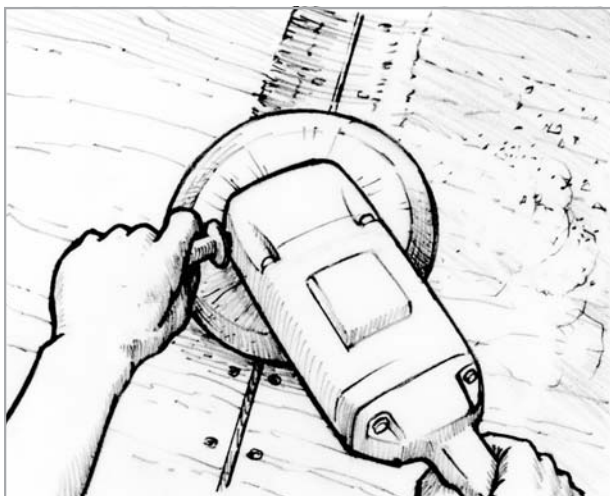

Figure 5-10 Sand a valley along the joint to allow for fiberglass tape.
3. Sand a 4" to 5"-wide valley along the joint with a disc sander to allow the layer(s) of tape to lie below the surface. Make the depression about 1/2" deep for each layer fiberglass tape that will fill the joint. Use the sander or a chisel to remove any additional damaged or rotted plywood around the joint. At an edge or chine, use the sander or a router with a round-over bit to round the corner. A 1/2" to 1" radius will allow the glass tape to lie flat on the surface (Figure 5-10).